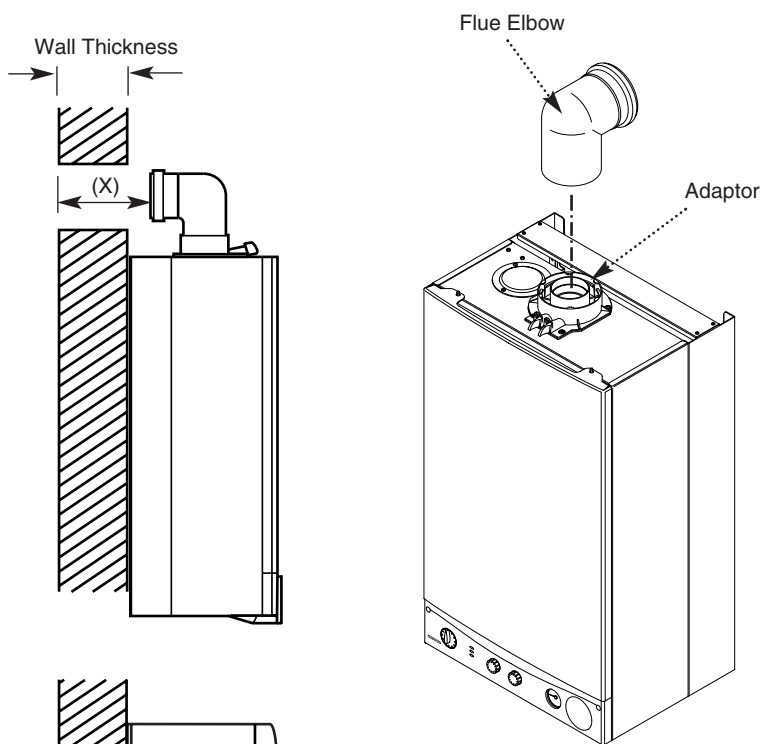

Fig. 24
2. Locate the flue elbow on the adaptor at the top of the boiler. Set the elbow to the required orientation (Fig. 24).